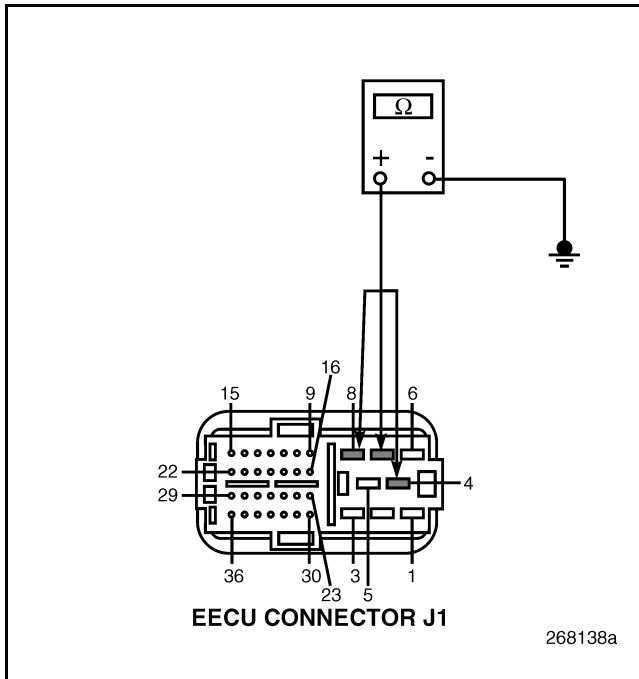

Figure 730
3. Check for continuity between EECU connector J1 pins 4, 7 and 8 versus a good ground (see Figure 730).